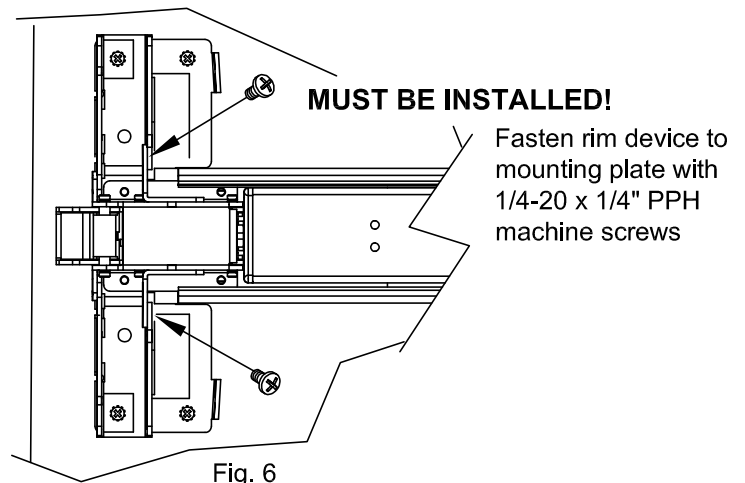

Fig. 6
3. (Fig. 6) Fasten rim device to mounting plate with 1/4-20 x 1/4" PPH machine screws.